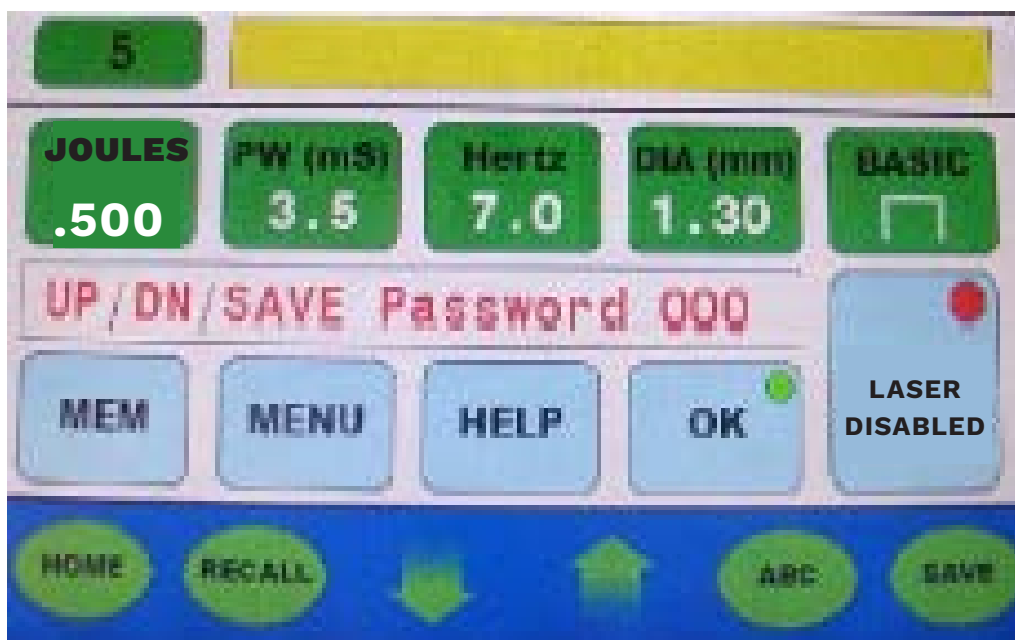

Figure 6
1. Press the menu button on the password screen; the first digit “4” will begin to blink (figure 6).